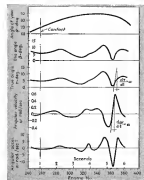
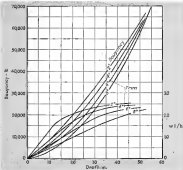

Fig. 7 Plot of ρ_{res} , $\Delta\omega$, angular velocity, and angular acceleration vs. time as determined from photoacoustic modulated wave analysis.
Fig. 8. Range and vertical height/boom vs. drift for typical hull.
Several values of α and β are plotted, as shown in Fig. 7, against frame number and, knowing the speed of the camera, frame number can be translated to time in sec. The observed values of α and β are plotted against the corresponding values of α and β in the equations, and the true angle of pitch, θ , is determined from equations (27) and plotted. First derivatives of angular displacement, $\dot{\theta}$, versus time, t , are plotted in Fig. 8, and the values of true angle of twist, ϕ , versus time is determined by taking the slopes of the curve and is plotted as angular velocity in radians per sec., as shown in Fig. 9.
Second derivatives of angular displacement versus time gives angular acceleration, $\ddot{\theta}$. This is obtained by taking the slopes of the curve of angular velocity versus time and is plotted as angular acceleration in radians per sec. against various time, as shown in the bottom plot of Fig. 7. To save time and space, the plot of $\ddot{\theta}$ is usually customary to simply plot the envelope of the curve that covers the region of highest acceleration is determined; and thus $\ddot{\theta}$ is fully determined as
Acceleration because of freetension is obtained in much the same manner except that only the vertical displacement of the C/G relative to the horizon is required. The vertical increment, a vertical time, t , is plotted, and the curve is integrated to give $\Delta v/dt$, gives vertical velocity v , a , of the C/G. This curve is plotted and the derivative, $d\Delta v/dt$, gives the vertical acceleration, a . A typical plot of this analysis is illustrated in Fig. 8.